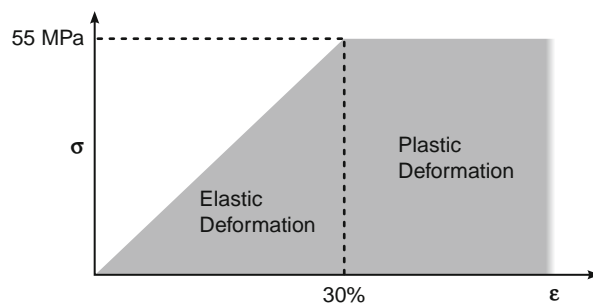

FIGURE 11.13 Stress and Strain for Polycarbonate
The previous section showed how the stress–strain diagram provides the information needed to determine if a material satisfies the design requirements. The question now becomes: Is there a material of less weight than steel that also satisfies the design requirements? To be specific, let us consider a polymer, a material that is much less dense than steel. Can it compete with steel in the bumper application? Again, our tool is the stress–strain diagram. Figure 11.13 and Table 11.1 are for a polycarbonate.
If the car's bumper in Example 11.1 is made of the polycarbonate described by Figure 11.13, can it absorb the TKE of the low-speed 2.5 mph collision, or will it plastically deform? What if it is traveling at 5.0 mph? What is the weight of this bumper? The density of polycarbonate is 1,300 kg/m³, and again assumes the compressive stress–strain diagram is the same as the tensile.
Solve: Calculate the elastic toughness by looking at Figure 11.13. It is given at yield by the triangular area, $\frac{1}{2} \times 0.30$ [m/m] \times 55. [MN/m²] = 8.3 MJ/m³.
17. Using the stress–strain properties for a polymer (Figure 11.13 and Table 11.1), determine whether a sheet of this polymer 0.10 m thick could serve as a micrometeorite shield if this time the shield must survive a micrometeorite strike without being permanently dented or damaged. Assume the properties of the polymer are symmetric in tension and in compression. (**A: Yes, it will survive unscathed.**)